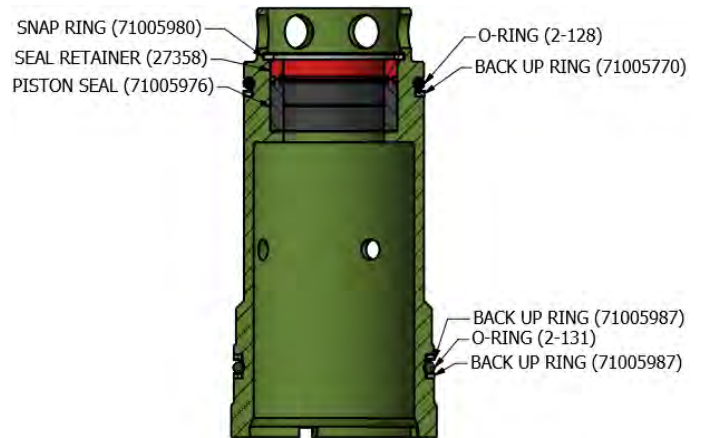

Figure 10 – Seat Retainer Assembly
- 11.10 Install the backup rings so that the contour faces the O-ring. Install the replacement backup rings and O-rings per Figure 10.